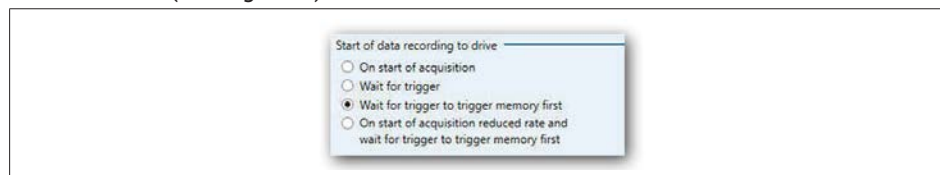

Fig. 9.24 Start of data recording to drive
- A In **Start of data recording to drive** area, select the **Wait for trigger to memory first** check box (see Fig. 9.24)